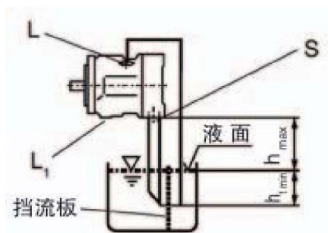

图 4
b) 当油箱的最低液面低于泵的顶部时，将泄油口“L₁”堵住，泄油口“L”、进油口“S”的配管要求参见图 4，注意 $h_{\text{min}}=200\text{mm}$ ， $h_{\text{max}}=500\text{mm}$ 。
a) 安装在油箱上，泄油口“L”及进油口“S”配管请参见图 4。
- If the minimum fluid level is equal to or below the top of the pump, pipe ports "L" and possibly "S" as Fig. 4.; close port "L₁". The conditions according to item 1.2.1.
- When mounting above the reservoir, see Fig. 4. Conditions according to 1.2.1.